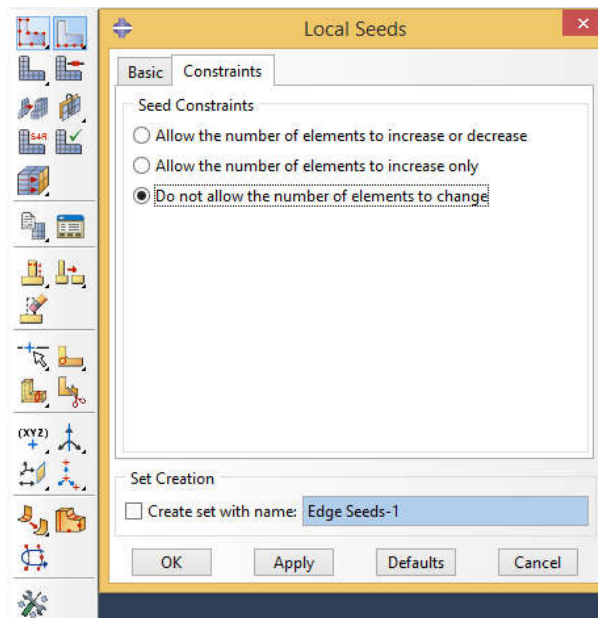

Figure 3-8: Seed by edge and constraint the element number
- 1) Choose mesh techniques wisely and *do not allow the number of elements to change* (Figure 3-8).